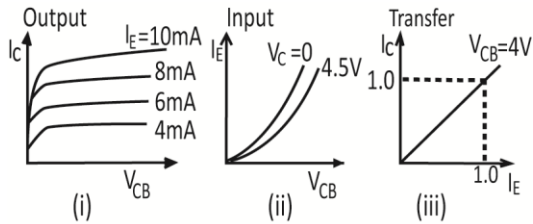
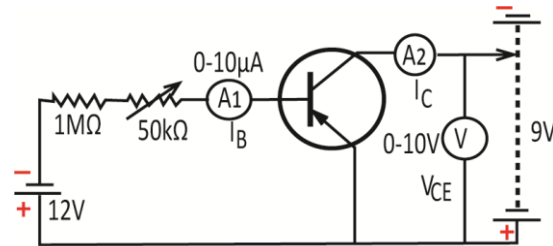

Fig. 12. C-B characteristic
Fig.13. Common-emitter characteristic investigation
Typical results are shown in Fig. 12. (i), (ii), (iii).
- The flat output characteristics in Fig. 12 (i) show that the output resistance, $\Delta V_{CB} / \Delta I_E$ is high.
- From the straight line graph of the transfer characteristic in Fig. 12(iii), it follows that a linear relation exists between I_C and I_E .
The slope of the transfer characteristic in Fig. 12 (iii) provides the current gain of the transistor, $\Delta I_C / \Delta I_E$. It is practically 1, showing that the common-base arrangement is unsuitable for current amplification. Now in a typical transistor, as already seen, $I_C = 0.98$ mA and $I_B = 0.02$ mA. Thus I_C is 49 times as large as I_B and a similar order of magnitude for current gain occurs with changes in I_B . On this account the common-emitter (or grounded-emitter) arrangement is widely used in a.f. amplifiers. Fig. 13 shows a circuit for determining the output characteristics, input characteristics and transfer characteristic in the common-emitter (C-E) arrangement.